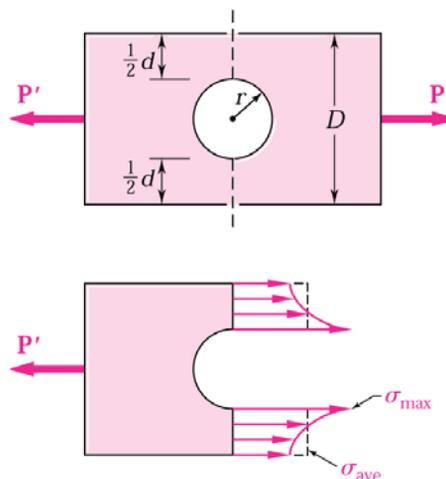

Fig. 1. Stress distribution near circular hole in flat bar under axial loading
- When a structural member contains a discontinuity, such as a hole or a sudden change in cross section, high localized stresses can also occur near the discontinuity (Figs 1 and 2).